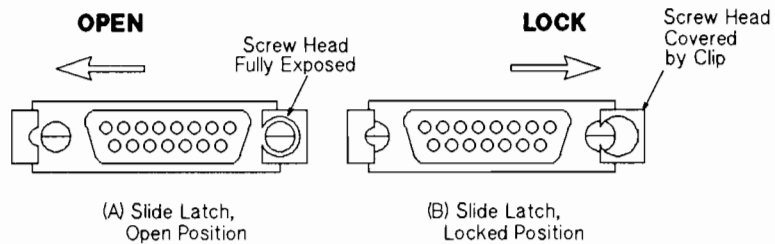

Figure A-2. Securing Cable Hold-Down Clips
- a. Slide the hold-down clip to the “open” position (see Figure A-2(A)).
- c. Slide the hold-down clip to the “locked” position (see Figure A-2(B)). This hold-down clip prevents accidental cable disconnection during operation.